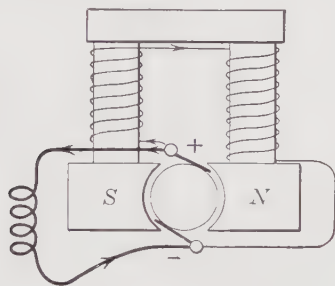

FIG. 7.
2. Shunt wound generator in which the field and armature windings are connected in parallel as shown in Fig. 7. The field windings have a high resistance being made of many turns of fine wire which permits only a small part of total current to flow through them.